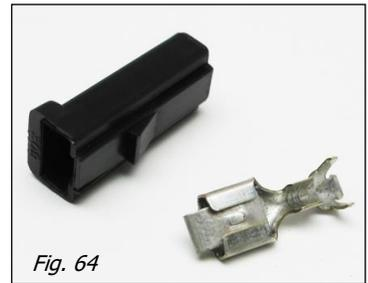

Fig. 64
- In the parts kit, locate the connector and a terminal (see Fig. 64).